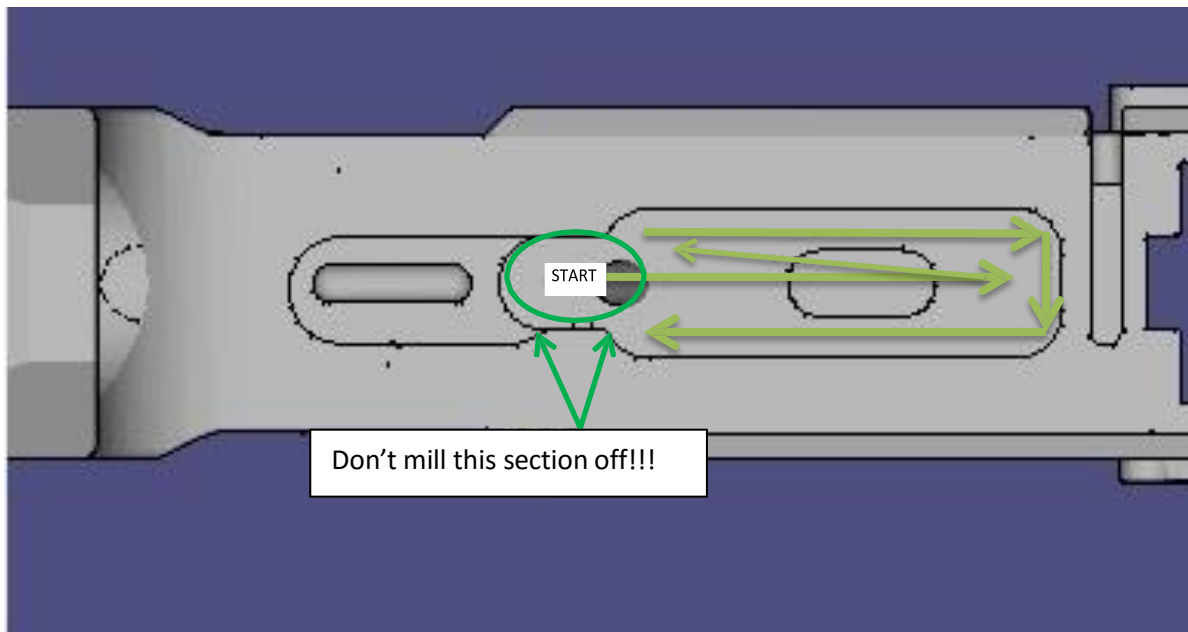

Figure 3
- Once this hole is done you can start going straight across into the wider fire control pocket area to clear out material. It's important to start clearing out the hole so you can see what you are doing. A strong light and a shop vac are useful. Figure 3 shows you the technique and pattern you should follow while plunging and milling.
- Note: Now that we're going to start drilling and cleaning out the main fire control pocket using a milling procedure, it's important to note that the drill bit in a drill press is spinning in a clock-wise direction towards you, from right to left. **ASSUMING YOU ARE USING A CROSS SLIDE VISE** therefore, when moving the jig underneath in the slide vise, follow the path pictured in Figure 3 to prevent the bit from jumping and chattering. You will work against the grain in one sense, rather than allowing the bit to grab and run.
**14. Each time you go through this process, FOLLOW THE PATH IN FIGURE 3.**